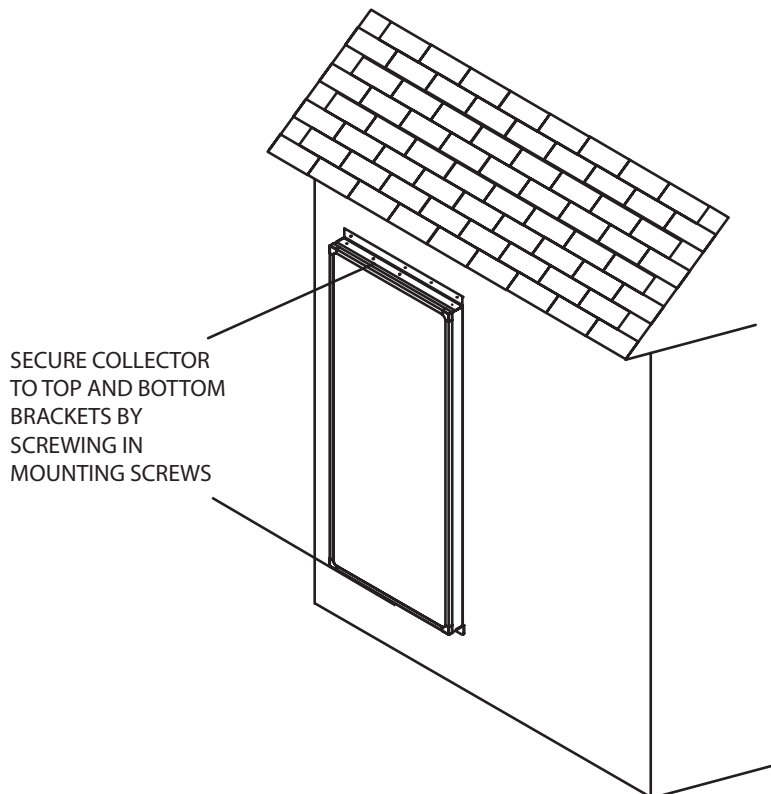

Figure 20. Solar collector secured with top bracket.
l. Line up the edges of the collector flush with the edges of the mounting brackets and secure the collector as shown in Figure 20.